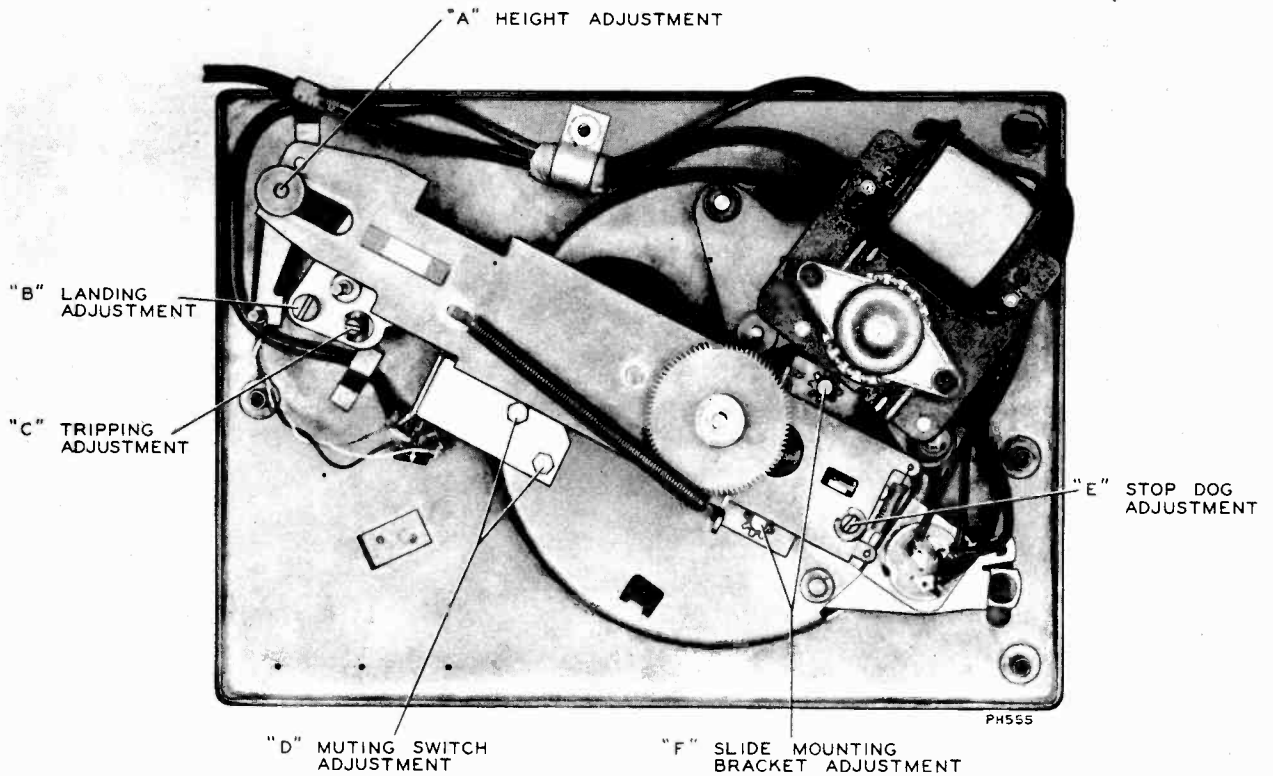

Fig. 38
Under ordinary conditions the landing adjustment is a screw-driver adjustment as shown. The adjustment of eccentric landing adjustment stud (B) gives approximately a 1/4" movement. (See Figs. 38, 40, 41.)
5. Exact landing adjustment can now be made by a screw-driver on stud (B). (See Fig. 38.)
#### Pickup Height Adjustment (See Fig. 38):
#### Mounting Bracket Adjustment (See Fig. 38):
#### Muting Switch Adjustment (See Fig. 38):
#### Stop Dog Adjustment (See Fig. 38):